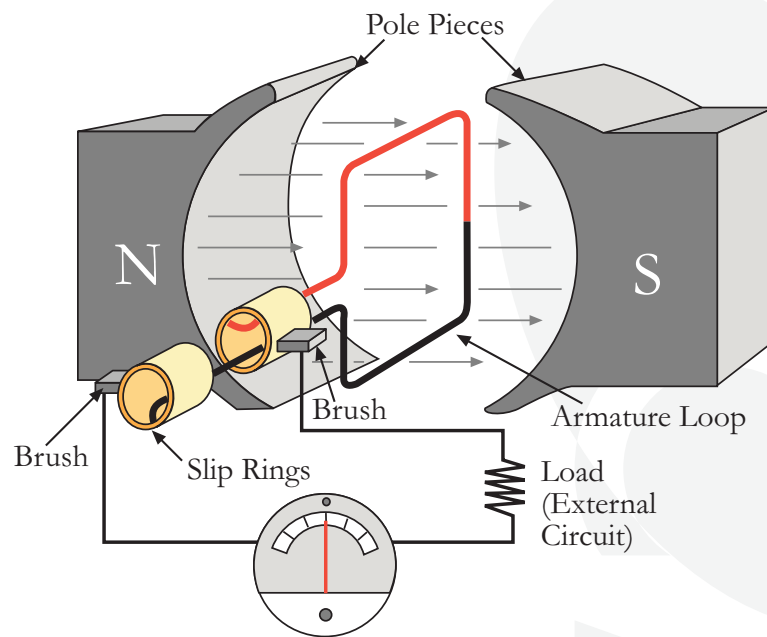
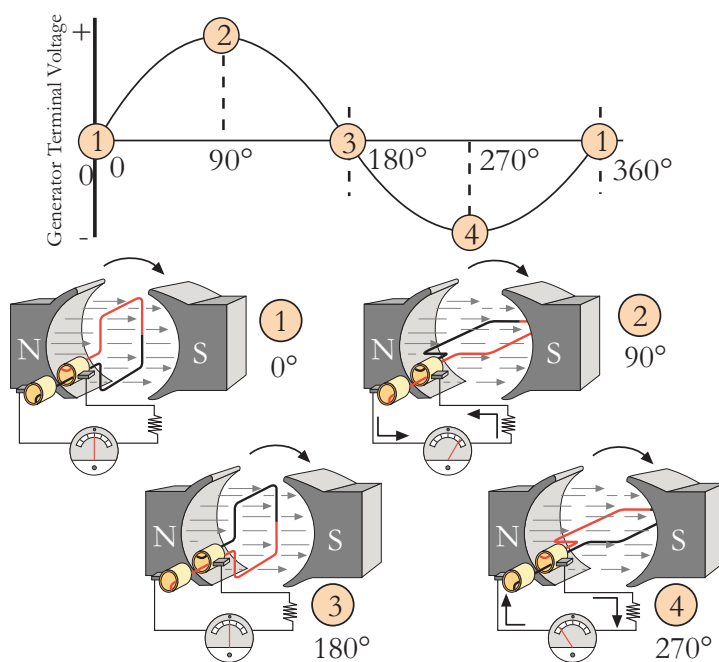

Figure 3.1 - The simple ac generator
Figure 3.2 – Voltage Generation
The simplest generator is an ac generator and basic generating principles are more easily explained by looking at this type first; the dc generator will then be discussed later. A simple generator, figure 3.1, consists of a wire loop positioned so that it can rotate in a stationary magnetic field and as it does will produce an induced emf in the loop. Sliding contacts, usually called **brushes**, connect the loop to an external circuit load in order to **pick up** or use the induced emf.
In figure 3.1 the pole pieces provide the magnetic field and are shaped and positioned as illustrated to concentrate the magnetic field as close as possible to the wire loop. The rotating wire is called the **Armature** and its ends are connected to rings, more correctly called **Slip Rings**, which rotate with the armature. Brushes, usually made of carbon, ride against the slip rings and have wires attached to them that connect to the external load. Any generated voltage appears across these brushes; this is demonstrated graphically in figure 3.2 below.
The simple generator illustrated in figure 3.2 above, produces a voltage as the armature loop rotates in a clockwise direction. For the purposes of this explanation, the initial or starting point is shown with the loop vertical, i.e. at position ①, called the 0° position. As illustrated in figure 3.2, at 0° the armature loop is perpendicular to the magnetic field and the loop's red and black conductors are moving parallel to the magnetic field.
As the armature has rotated from  $0^\circ$  to  $180^\circ$ , the conductors have been moving through the magnetic field in the same direction and so the polarity of the induced voltage has remained the same, illustrated by points A to C on the graph in figure 3.2. As the loop rotates beyond  $180^\circ$  through  $270^\circ$ , position ④, and back to the initial starting point, position ①, the direction of the conductors' cutting reverses through the magnetic field. Now the **red** conductor cuts **up** through the field while the **black** conductor cuts **down** through the field and as a result, the polarity of the induced voltage reverses, as shown in figure 3.2. The terminal voltage will be the same as it was from ① to ③, except that the polarity is reversed as shown by the meter deflection at position ④. The voltage output waveform for a complete revolution of the loop is shown on the graph in figure 3.2.